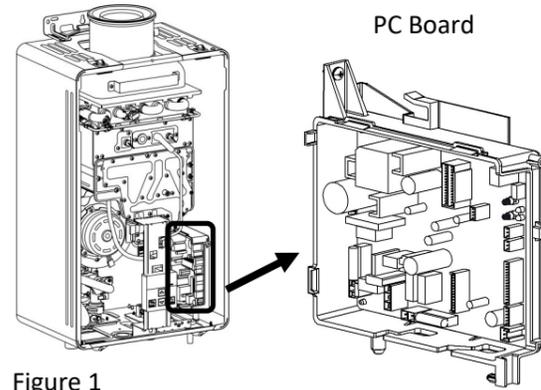

Figure 1
3. Locate the PC Board in the bottom, right corner of the water heater (Figure 1).